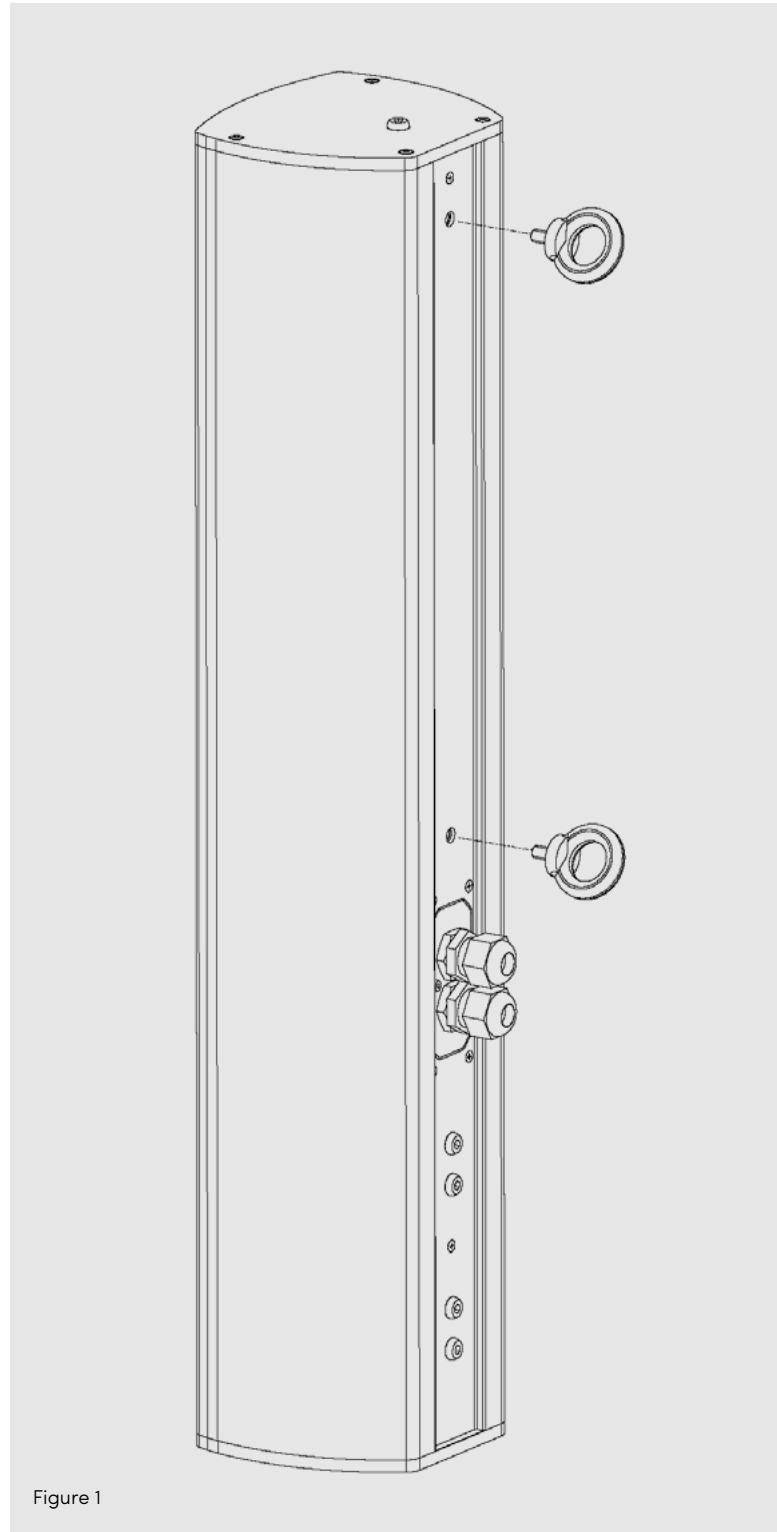

Figure 1
- DIN 580 C15 forged eyelets can be used for anchoring the system. SEE FIGURE 1.